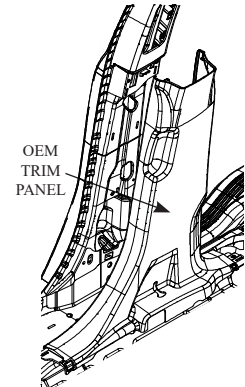

FIG. 7A
- C. Orientate the B-Pillar bracket so the locating tab fits into the Oval Pocket on the vehicle B-Pillar and the formed locating flanges wrap around the vehicle B-Pillar. Push over and up on the Bracket until the locating tab is at the top of the pocket and the flanges are tight against the vehicle B-Pillar edge. Insuring that the bracket is located correctly, using the supplied Self-Drilling screws (3X162) secure the B-Pillar bracket to the vehicle B-Pillar. (See Fig. 7A & 7B)